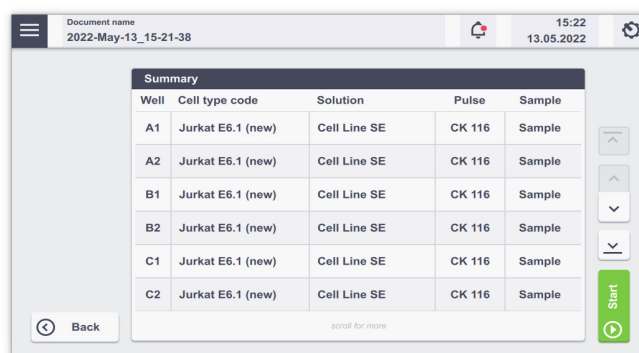

Figure 2.16: Summary screen after experiment definition.
A summary of the defined settings will be displayed (Figure 2.16). Before loading samples and pressing “Start” (see chapter 2.9.3), please double-check for accuracy.
1. After loading the samples, press “Start” to run the experiment (Figure 2.16).